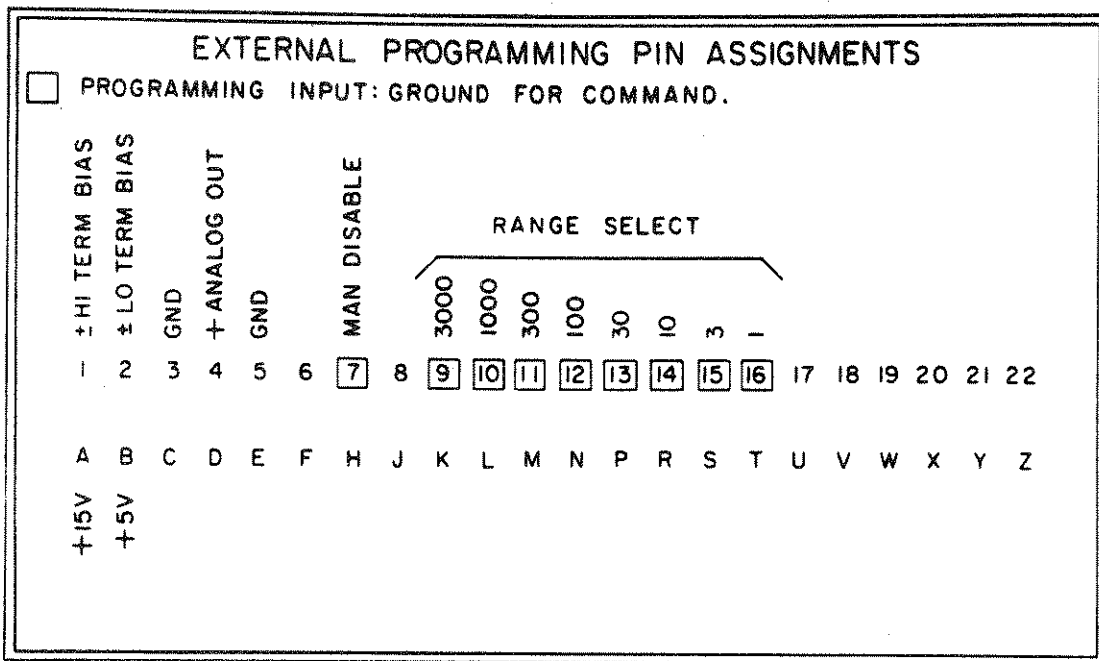

Figure 4-4. External Connections
Rear-panel connector P102 makes available +15 V and +5 V for use with BEC options; it also provides an analog output for a recorder. In addition, pins are available for the following purposes: (1) for the connection of external voltage supplies to bias the HI and/or LO terminal; (2) for remote ranging. See Figure 4-4 and Table 4-2 for pin locations and descriptions.